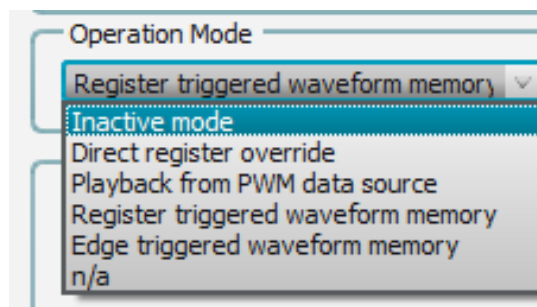

Figure 24: Operation Mode
2. Use the drop-down menu in **Operation Mode** to select the required mode, see Figure 24. Each Operation Mode is described in detail in the following sub-sections.